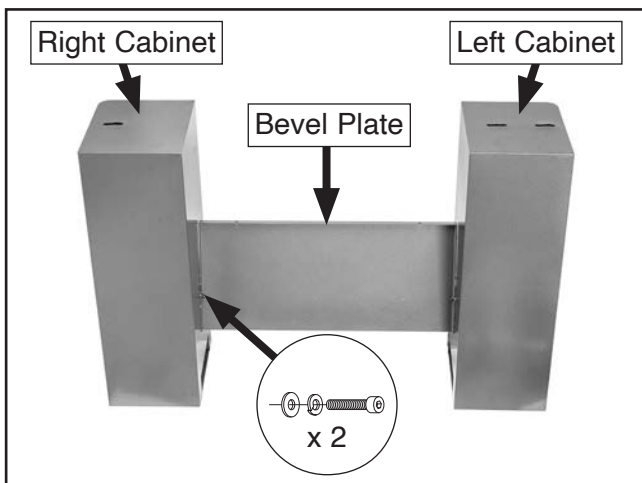

Figure 15. Bevel plate attached to left and right cabinets (shown from rear).
1. Position left and right cabinets approximately 27" apart in prepared location (see **Figure 15**).
2. Attach bevel plate to cabinets with (2) M6-1 x 12 cap screws, 6mm lock washers, and 6mm flat washers (see **Figure 15**). Hand-tighten screws for now.